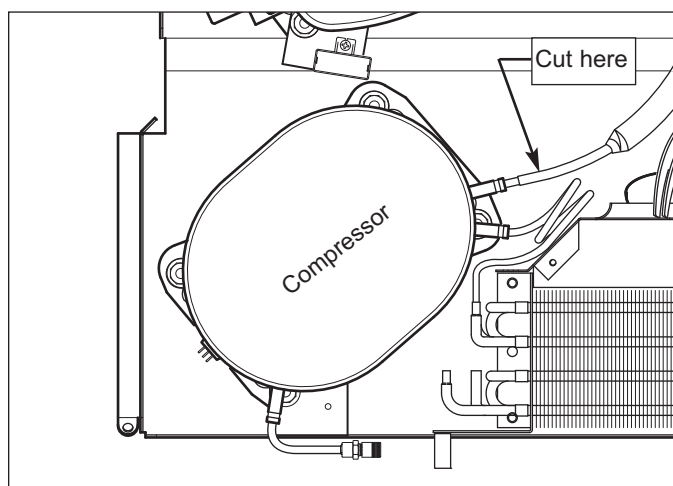

Figure 7-57. Cut Suction line at compressor
2. Cut the suction line approximately two inches from compressor. (See Figure 7-57)